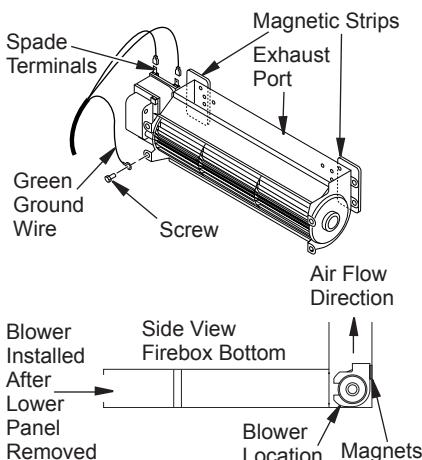

Figure 15 - Blower Model BK
1. Be certain that all wire terminals are securely attached to terminals on blower motor and that the screw retaining the green ground wire is tight (see Figure 15).
2. Place blower against lower rear wall of firebox outer wrapper with exhaust port directed upward. Depending on your model, you may have to carefully route the blower assembly past controls and brackets and position blower inside back opening. The blower will be held in position against the back wall by magnets incorporated onto blower housing (see Figure 15).